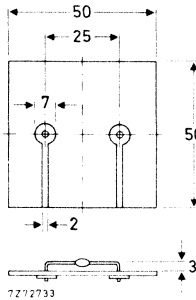

Fig. 2.
2. Thermal resistance from junction to ambient when mounted on a 1,5 mm thick epoxy-glass printed-circuit board; Cu-thickness $\geq 40\text{ }\mu\text{m}$; Fig. 2